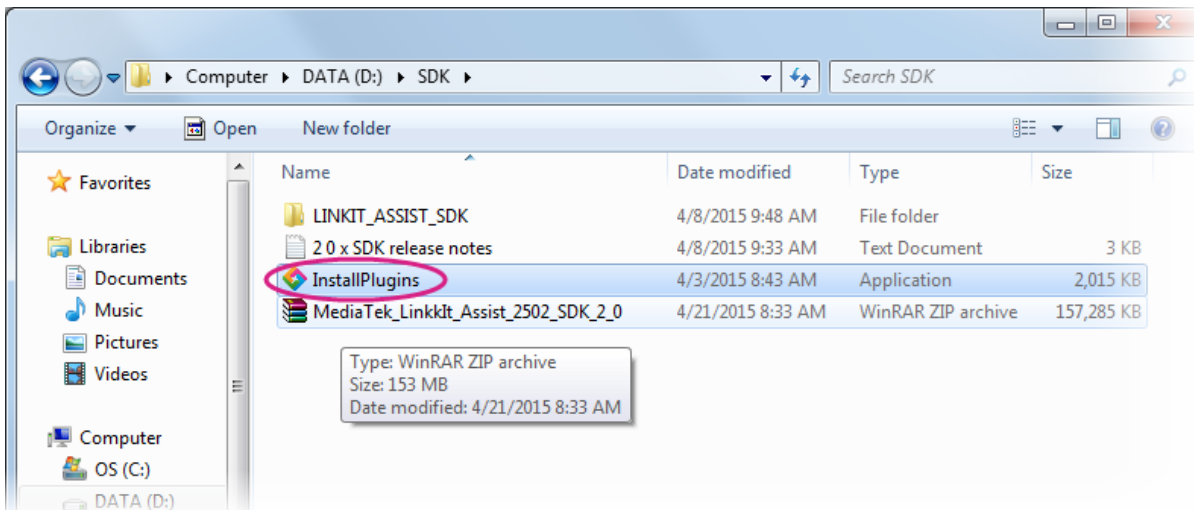

Figure 6 The LinkIt Assist 2502 SDK 2.0 installation application
4) Double click the LinkIt Assist 2502 SDK 2.0 InstallPlugins as shown in Figure 6.